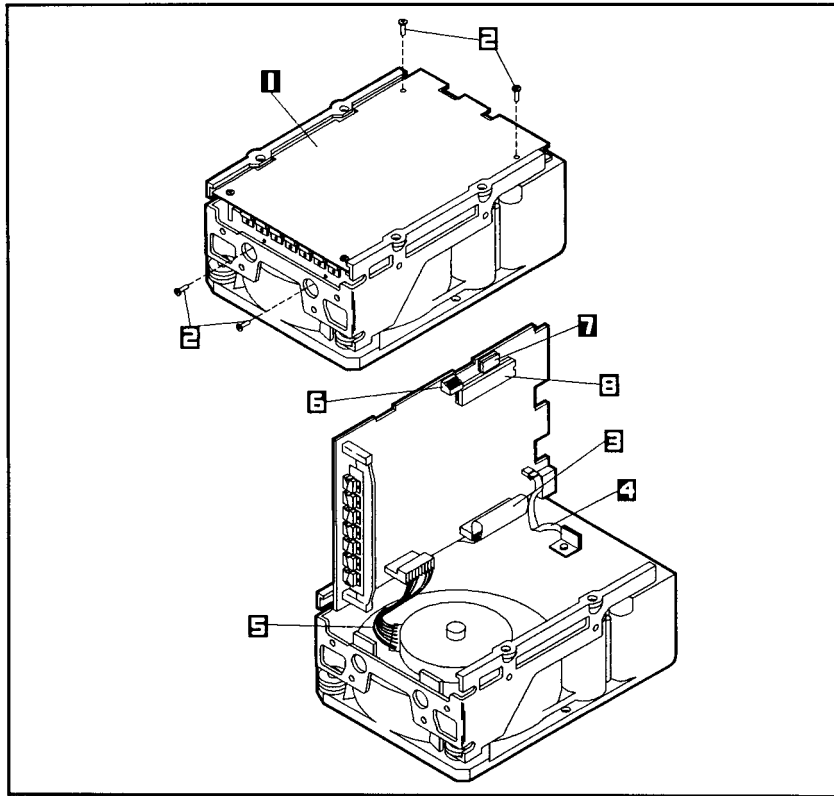

Figure 8-1. Removing the ESDI PCA
3. Remove the four T10 screws (20) securing the mounting bracket assembly (19) to the disk mechanism. Remove the bracket.
5. Remove the four T10 screws (23) securing the ESDI PCA to the disk mechanism. See Figure 8-1.
6. Carefully pull the ESDI PCA away from the disk mechanism until the three cables connecting the HDA to the ESDI PCA are accessible. The ESDI PCA will hinge to one side, providing easy access to the cable connectors. See Figure 8-1.